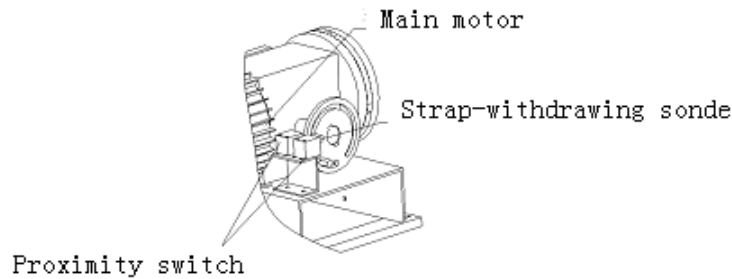

Fig 2-15
- ② When the two proximity switches induce strap-withdrawing sonde shown as Fig 2-15, main motor stops running , strap-withdrawing motor starts, the machine starts withdrawing strap.